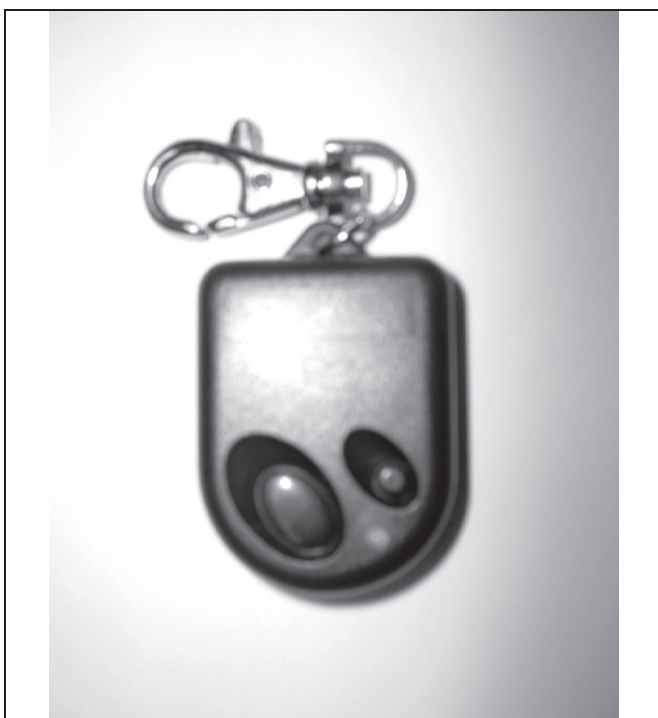

Figure 5-5 - Remote or Pendent Dump Controller
- Press and hold button (1) to raise the tilt deck. Release the button when the rear of the deck is touching the surface. See figure 5-5.
- Press and hold button (2) to lower the tilt deck. See figure 5-5. Release the button when the tilt deck is fully lowered. Place